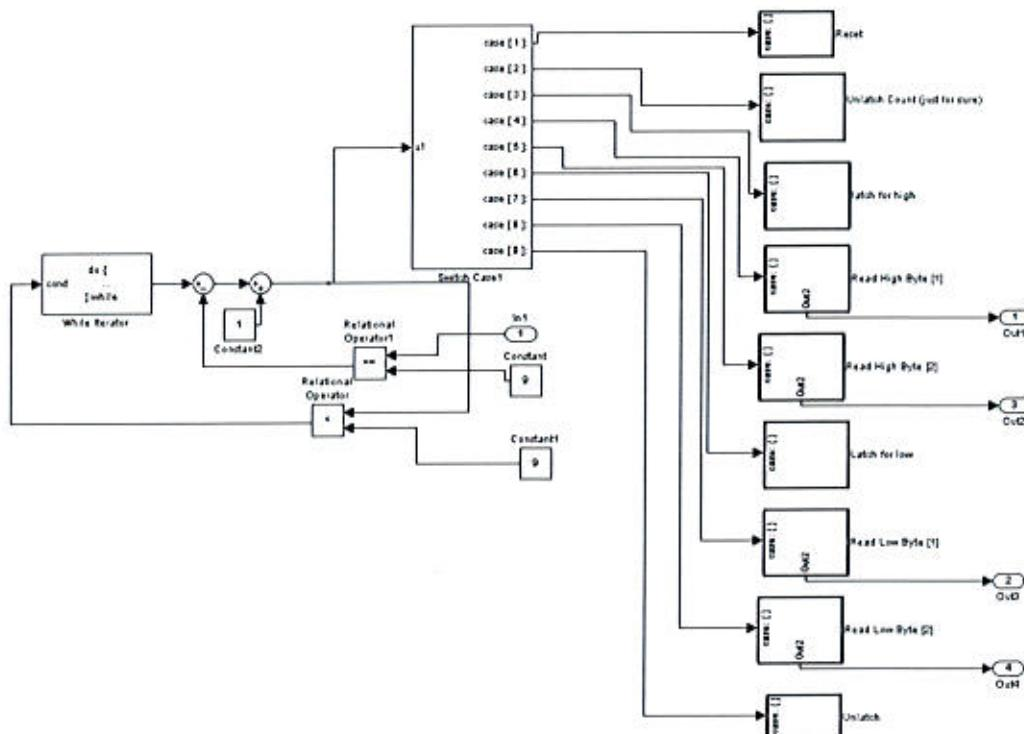

Figure 38 Feedback Encoder Block - Reading Values From Encoders
- 5) set !OE line to high (Figure 38).
- Digital Output or Digital Input blocks are placed in the Action blocks presented in Figure 38.